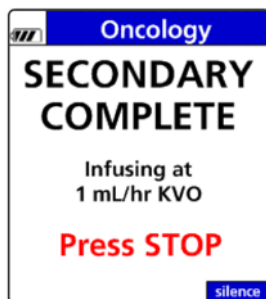
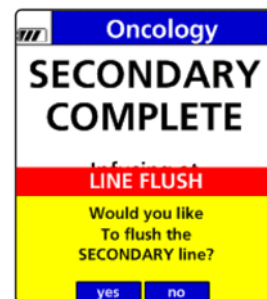

Figure 108. Secondary Complete Alarm.
Figure 109. Secondary Complete: Line Flush Dialog Box.
1. At the completion of the secondary infusion, the Secondary Complete screen will display if the secondary callback has been enabled or configured for this drug in the Drug Library. See Figure 108. Also see Figure 109.